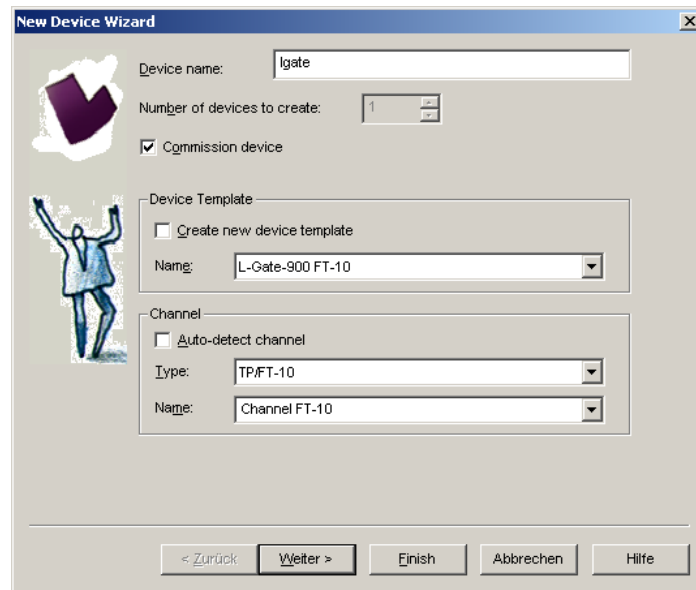

Figure 60: Create a new device in the drawing.
1. In your LonMaker drawing, drag a device stencil into the drawing. Enter an appropriate name as shown in Figure 60.